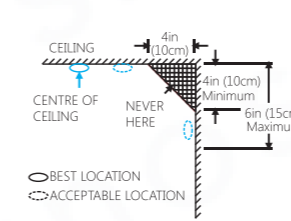

Figure 4: Recommended best and acceptable locations to mount smoke detectors
- Install smoke detectors as close to the centre of the ceiling as possible. If this is not practical, put the detector on the ceiling, no closer than 4 inches (10 cm) from any wall or corner, as shown in Figure 4.
- If ceiling mounting is not possible and wall mounting is permitted by your local and state codes, put wall-mounted detectors between 4 and 6 inches (10 ~ 15 cm) from the ceiling, also see Figure 4.
Dead air spaces are often at the top of a peaked roof, or in the corners between ceilings and walls. Dead air may prevent smoke from reaching a detector. See Figures 4 and 5 for recommended mounting locations.